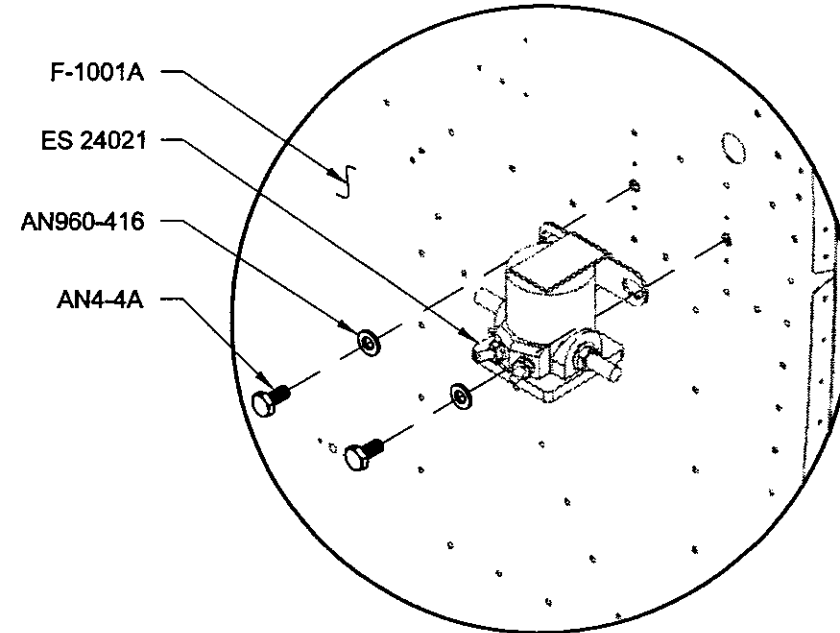

FIGURE 2: MOUNTING THE STARTER RELAY
Step 4: Mount the ES24021 Starter Relay to the left side of the F-1001A Firewall Bulkhead as shown in Figure 2. The connection orientation of the starter relay is not critical but its physical orientation should be followed to prevent accidental activation under high G's.